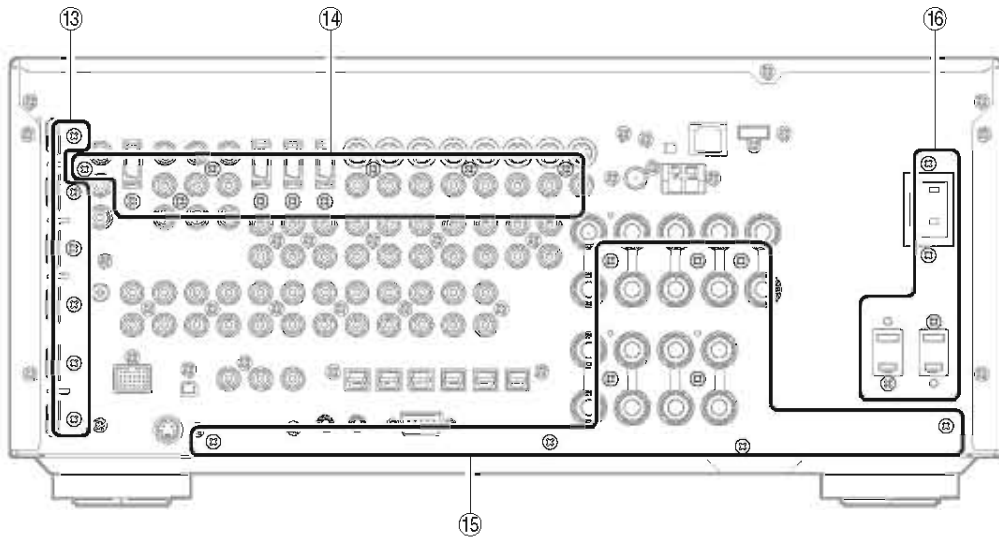

Fig. 6
- Remove 6 screws (13). (Fig. 6)
- Remove 6 screws (14). (Fig. 6)
- ⑬のネジ6本を外します。(Fig. 6)
- ⑭のネジ10本を外します。(Fig. 6)
- a. Remove 10 (U, C, T, K, A, B, G, E models) / 12 (R, L models) screws (15) and 4 (U, C, R, T, A, B, G, E, L models) / 2 (K model) screws (16). (Fig. 6)
- a. 15のネジ9本、16のネジ4本を外します。(Fig.6)